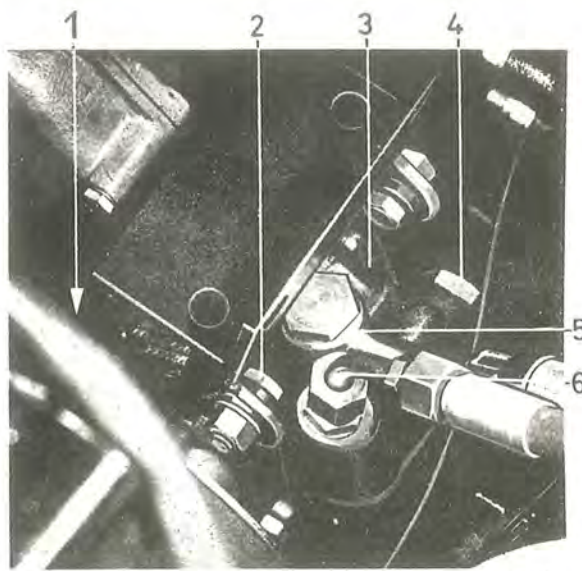

Fig. 6-67. Servo pump, fitted
1. Clean round the connections (5 and 6, Fig. 6-67).
2. Disconnect the suction line (5) and collect the oil running out.
3. Disconnect the delivery line (6), and unscrew the tensioning bolt (1) and the attaching bolt (2). Protect the nipples and connections from dirt.
2. Fit the attaching bolts and other components, see Fig. 6-67. Tension the drive belt so that it can be pressed in about 5 mm (3/16") in the middle. Tighten the bolts and the connections.